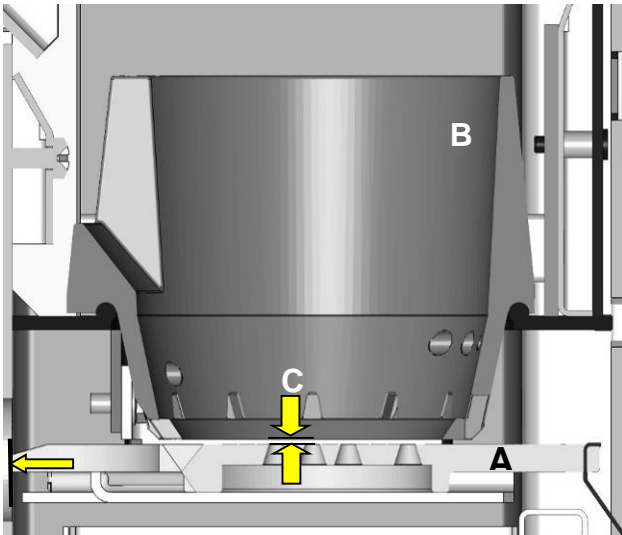

Fig. 72: cross-section, grate and burner pot
1. Always insert cast grate (Fig. 72 Part A) up to the stop (without force, flat side up!) so that the door closes correctly.
There may be a maximum clearance of 1 mm between the cast grate and the burner pot Fig. 72 (C).